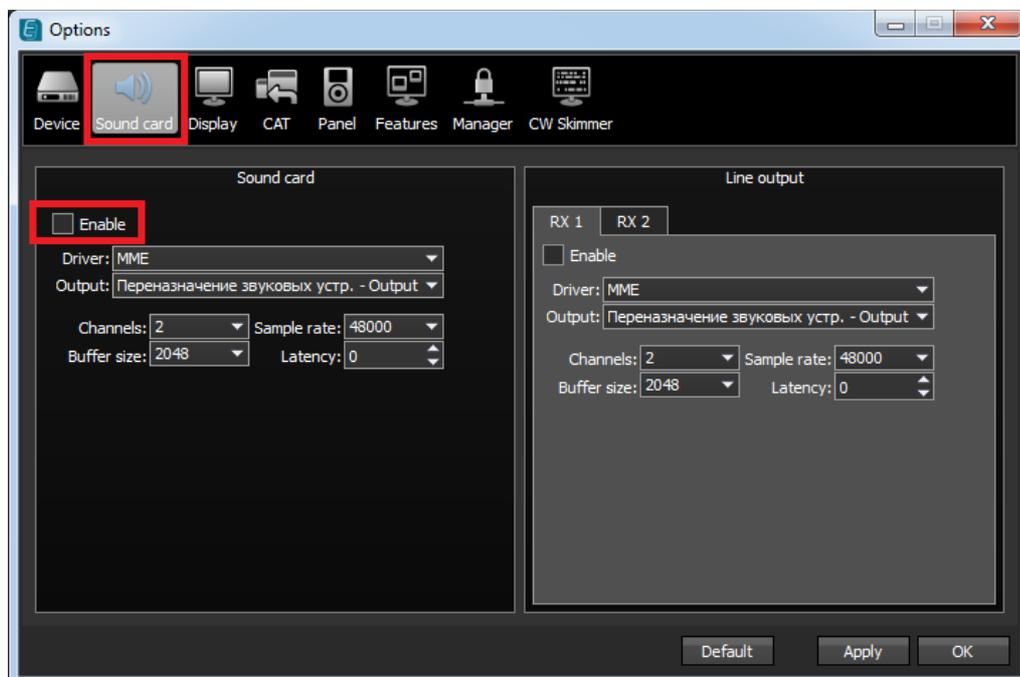

Figure 3.4 – Controlling the microphone inputs of the transceiver
7. Go to **Sound Card** menu and verify check box “Enable” is unchecked. See figure 3.4;